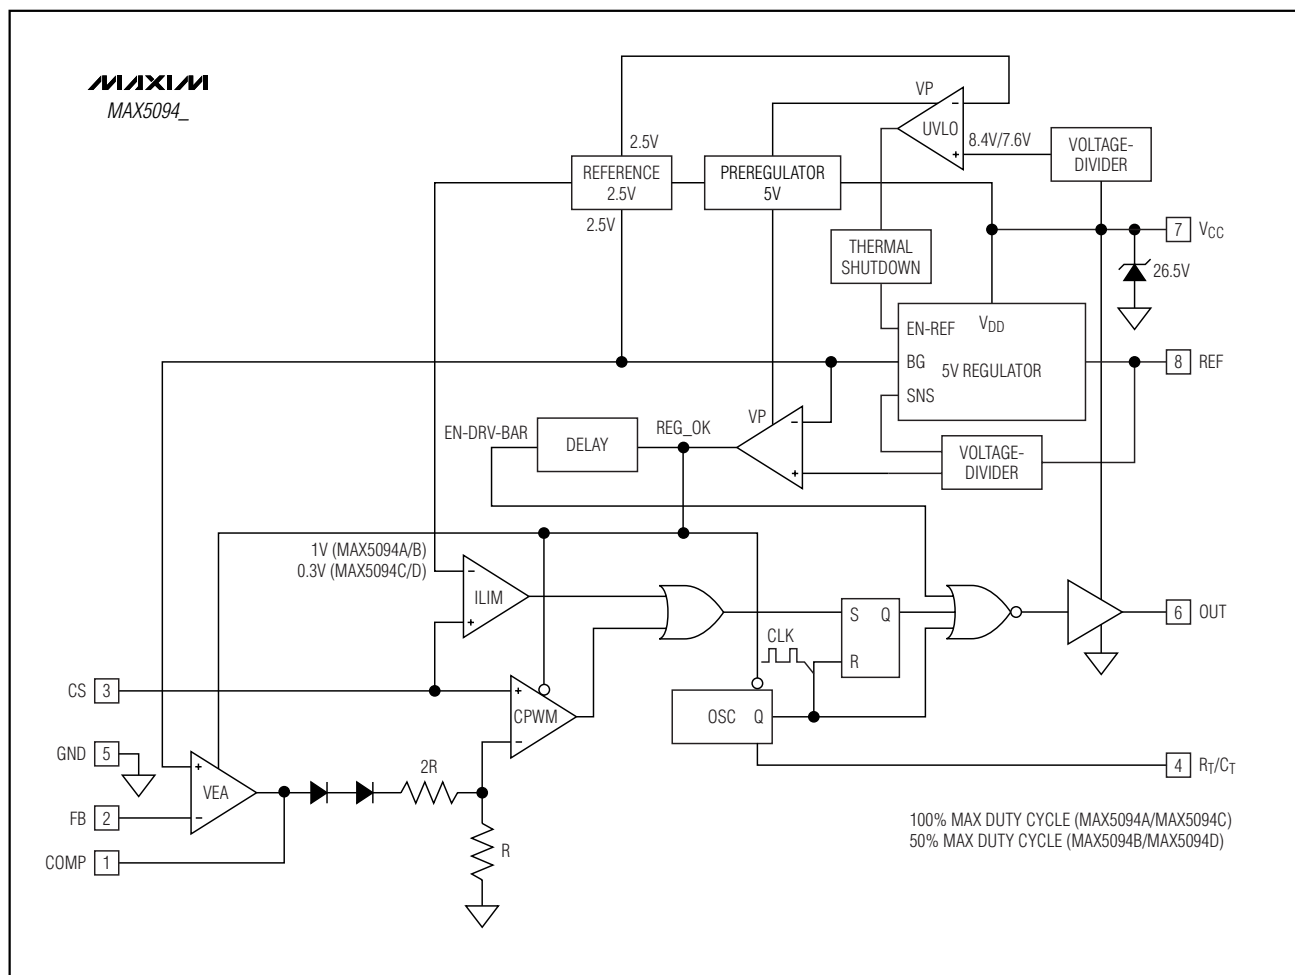

Figure 1. MAX5094_ Functional Diagram
feedback input (FB) and internal error amplifier. The MAX5095A/MAX5095B include bidirectional synchronization (SYNC). This enables multiple MAX5095A/MAX5095Bs to be connected and synchronized to the device with the highest frequency. The MAX5095C includes an ADV_CLK output, which precedes the MAX5095C's drive output (OUT) by 110ns. Figures 1, 2, and 3 show the internal functional diagrams of the MAX5094_, MAX5095A/MAX5095B, and MAX5095C, respectively. The MAX5094A/MAX5094C/MAX5095A are capable of 100% maximum duty cycle. The MAX5094B/MAX5094D/MAX5095B/MAX5095C limit the maximum duty cycle to 50%.